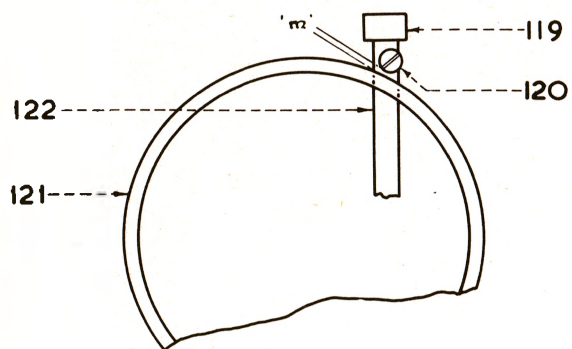

FIG. 12
- 33.2 If this is not so, and no mechanical fault is present, remove the clutch band (135) and either set it or change it to get the required torque.
34. Tape-out reset plunger and switch, Figs. 12 and 13